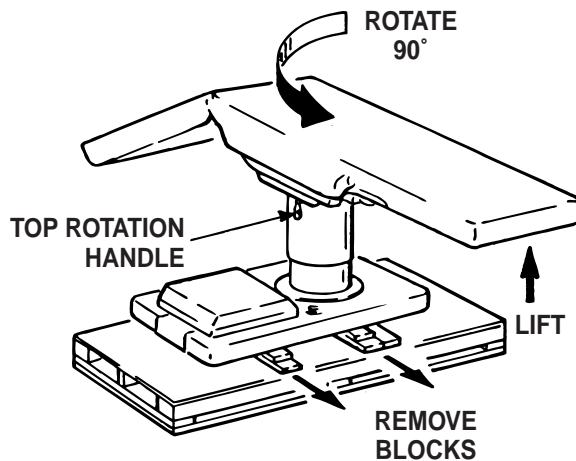

Figure 5.
7. The positioning blocks that extend under the table are two-piece. To remove them, unlock the Table Top Rotation Lock Handle, rotate the table top 90° and tighten the Top Rotation Handle. Rock the table to one side and remove the blocks, then rock the table to the other side and remove the remaining blocks. See figure 5.